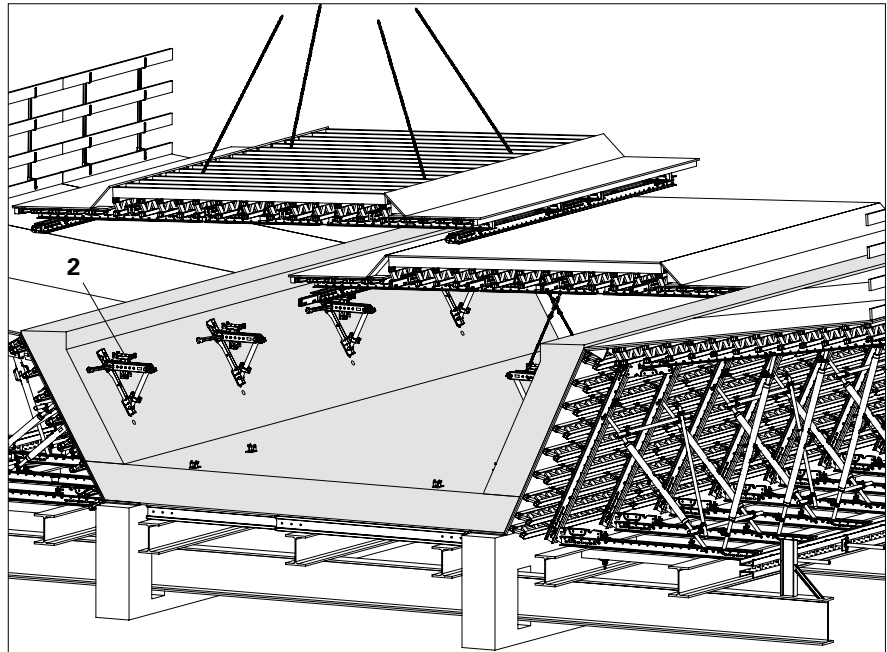

Fig. B5.04
1. Insert slab element with rails (22a) on Longitudinal Connector (4) and place on Roller Dropheads (2).
3. Connect Longitudinal Connector (4) to the rails using 2 fitting pins and cotter pins.
6. Lift in the last slab element complete with mounted Travelling Nose SRU. (Fig. B5.04 – B5.04a)